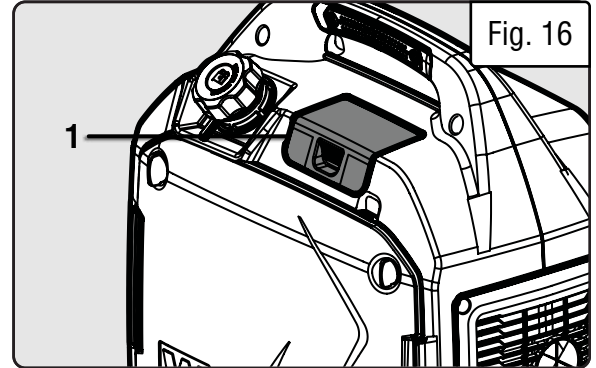

Fig. 16
1. Open the spark plug access cover (Fig. 16 - 1).